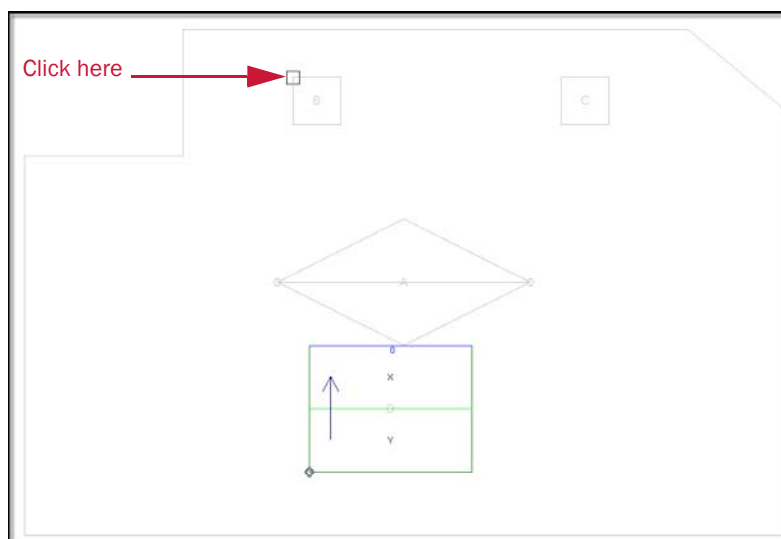

Figure 3-13 Select the first point for your long cricket
4. Place your cursor on the top left corner of the first void and click, as in *Figure 3-13*.